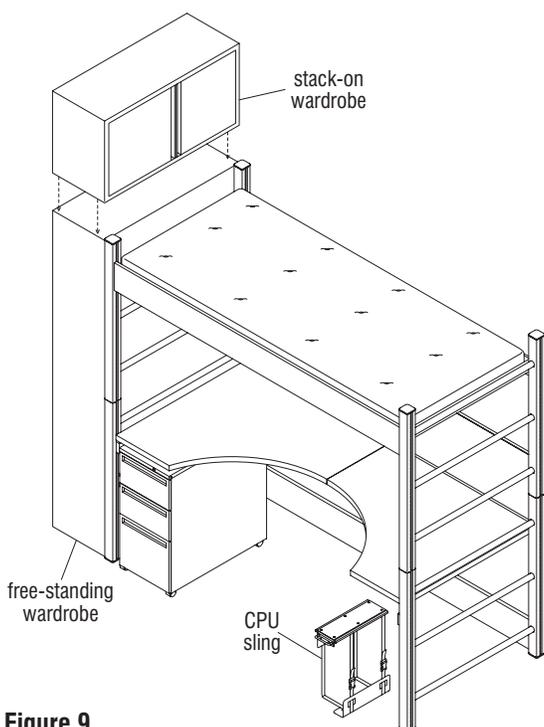

Figure 9
1. CPU Sling (Figure 9) installs under any worksurface. See instructions on page 19.
1. Wardrobe unit can be positioned up against either bed end frame, or placed at any location in room (Figure 9).
1. Position stack-on wardrobe on top of free-standing wardrobe, lining up clearance holes in top of free-standing wardrobe with weld-nut holes in bottom of stack-on wardrobe (Figure 9).
2. Fasten the two units together securely using four thumb screws from inside the free-standing wardrobe (Figure 9).